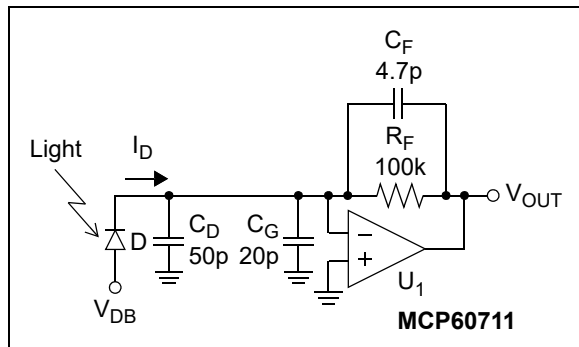

FIGURE 4-10: Photo-diode Detector Circuit.
The circuit in Figure 4-10 has a photo-diode detector (D), which has parasitic capacitance C_D and produces an output current (I_D). V_{DB} biases D so that it's either in photo-voltaic mode (at 0V, like U_1 's noninverting input) or photo-conductive mode (less than 0V). Photo-voltaic mode has a linear response to light, while photo-conductive mode is faster.